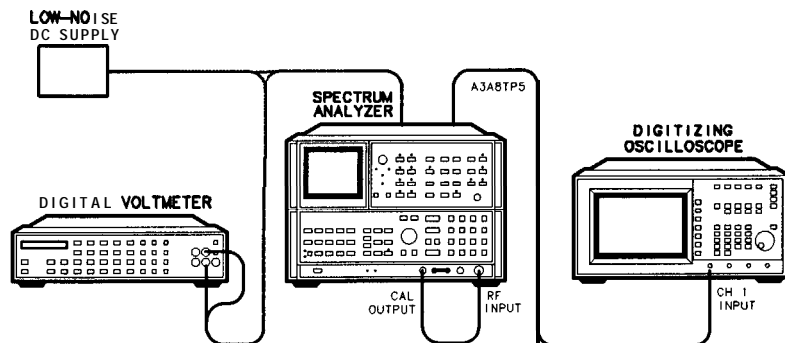

Figure 3-100. Analog-To-Digital Converter Adjustments Setup
1. Position spectrum analyzer upright as shown in Figure 3-100 and remove IF-Display Section top cover.